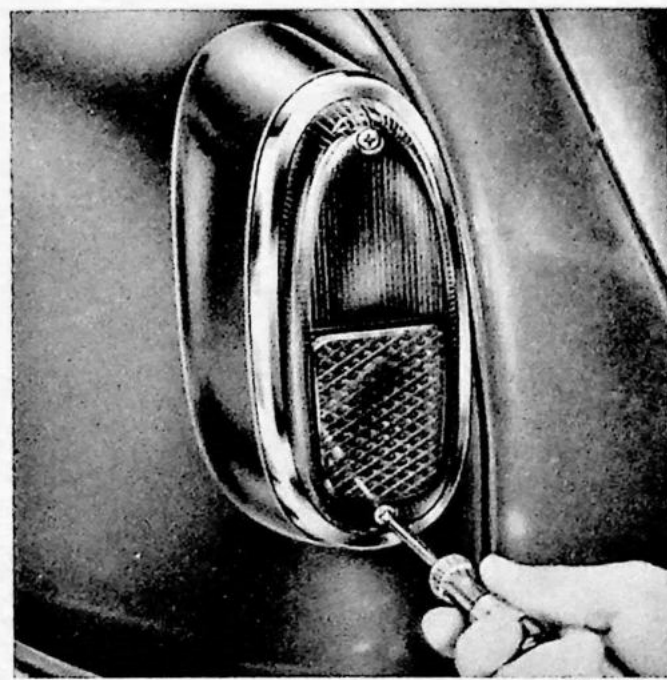

Fig. 17. Removing the glass.
1. Remove the glass as shown in Fig. 17.